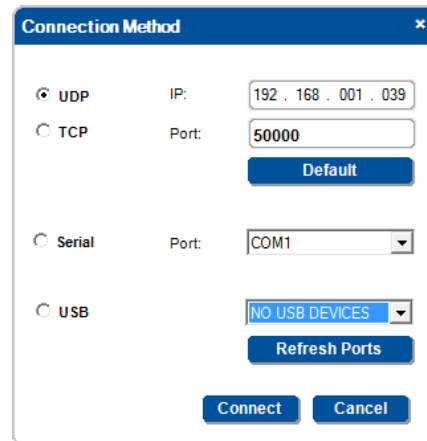
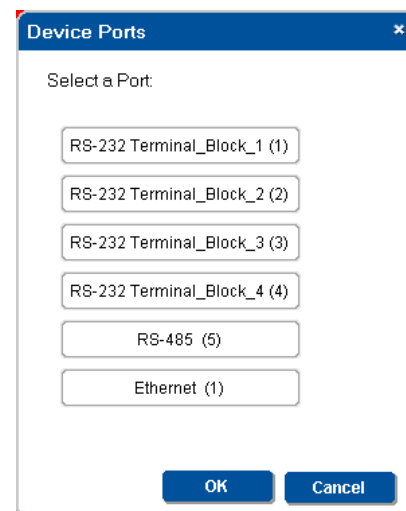

Figure 75: Testing Serial Commands –Connecting the PC to the Room Controller
Figure 76: Testing Serial Commands –Selecting a Device Port
- If the connection type between the room controller device and the PC was not yet established, the connection window will appear and you should select the connection method (in this specific example, the **RC-74DL** is connected to the PC via the Ethernet) and click Connect (see Figure 75) after that the Device Ports window appears (see Figure 76).
- If the room controller device is connected, the Device Ports window appears and you will need to select the port to which the controlled device is connected (see Figure 76).